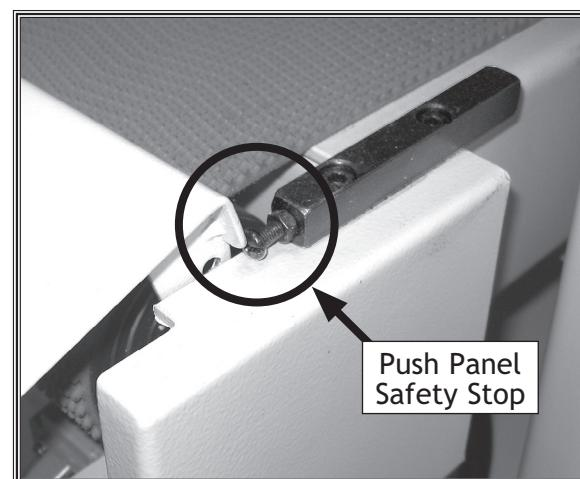

Figure 31. Push panel safety stop.
1. Lift the emergency stop push panel so it contacts the safety stop shown in **Figure 31**. The safety stop prevents the top edge of the push panel from tearing the conveyor belt when you lift the push panel during conveyor tracking adjustments.